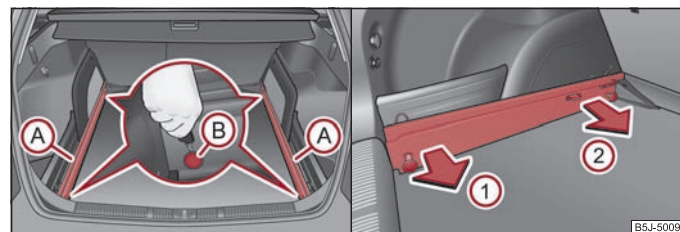

Fig. 63 Luggage compartment: Slacken check points / remove carrier rails
- Slacken the check points **(B)** on the carrier rails using the vehicle key or a flat screwdriver ⇒ page 67, fig. 63.
- Grasp the carrier rail **(A)** at the position **(1)** ⇒ page 67, fig. 63 and slacken it by pulling in the direction of the arrow. You can take out the removable storage compartments* in order to facilitate the removal ⇒ page 78, "Removable storage compartments* in the luggage compartment".